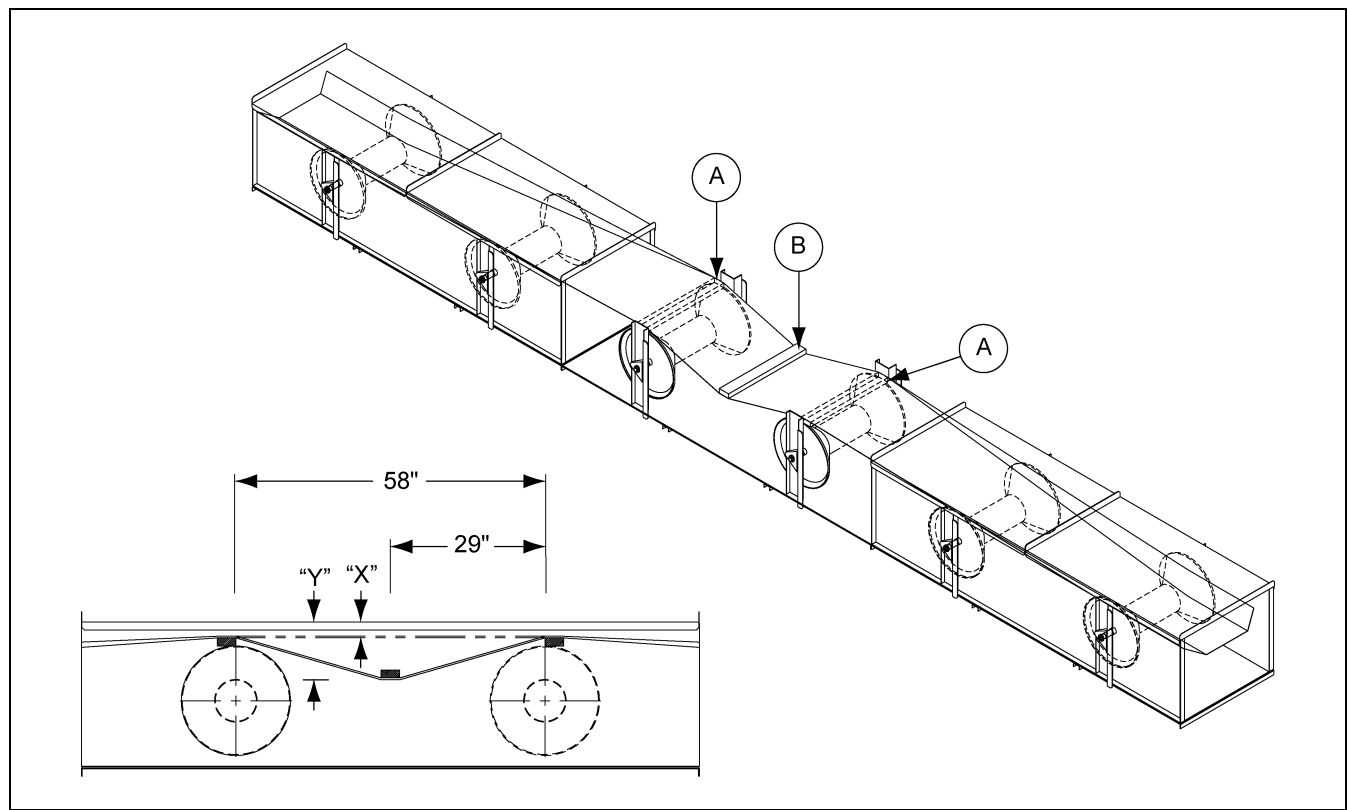
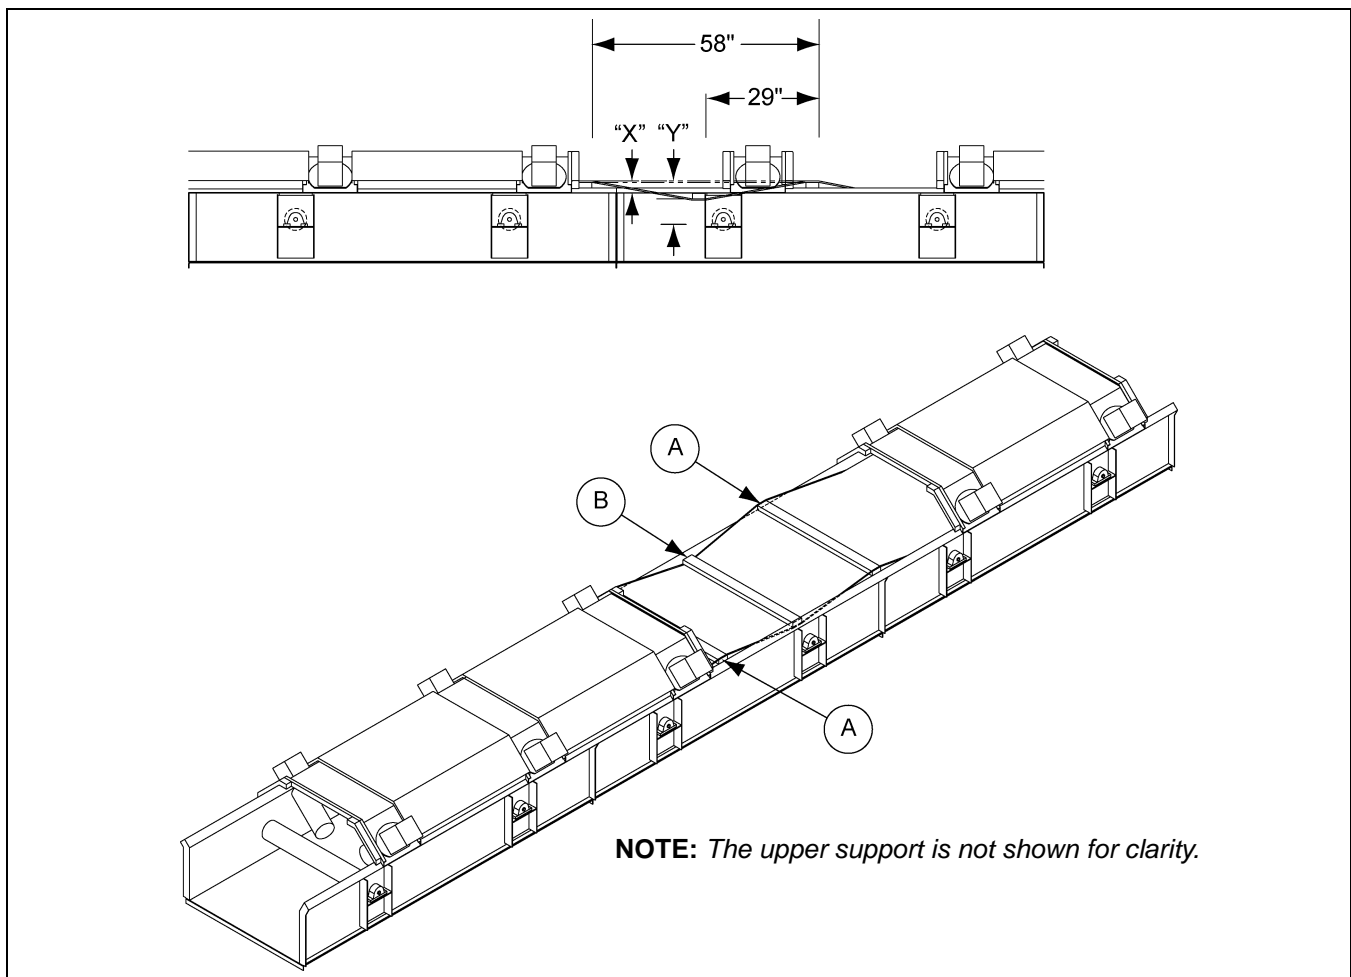

Figure 4Q Standard Roller Flo Belt Tensioning Procedure
Figure 4R 3I Roller Flo Belt Tensioning Procedure
The following steps will assist in properly adjusting the take up to ensure proper tension in the belt during normal operation. Figure 4Q below and Figure 4R on Page 25 can be used to assist in the following procedures.
- 2. **For Standard Roller Flo:** Place one board on top of each idler and underneath the belt. Center the inside edges of the boards over the shafts so the belt span is a full 58". Measure the distance (X) from the top of the side panel down to the top of the belt at the midpoint between the two (2) boards (29" away from the board edge). (See Figure 4Q.)
- 3. **For 3i Roller Flo:** Place one board on top of each side panel and underneath the belt. Align outer edge of the first board with one of the upper supports on the intermediate section to be checked. Place the second board on top of the side panel so that the inside edges of the boards span a full 58". Measure the distance (X) from the top of the side panel down to the top of the belt at the midpoint between the two (2) boards (29" away from the board edge). (See Figure 4R on Page 25.)